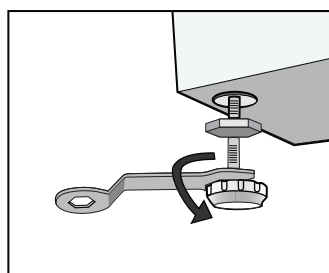

Fig. 2
3. Ensure the positioning status of washing machine. Loosen the lock nut with spanner and turn the leg with hand until it closely contacts with the floor. (Fig. 2) Press the leg with one hand and fasten the nut closely to the cabinet with the other hand.